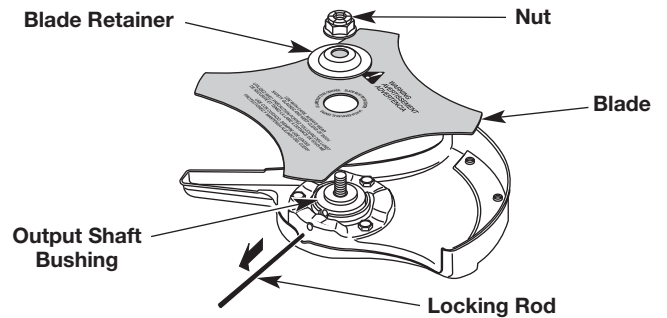
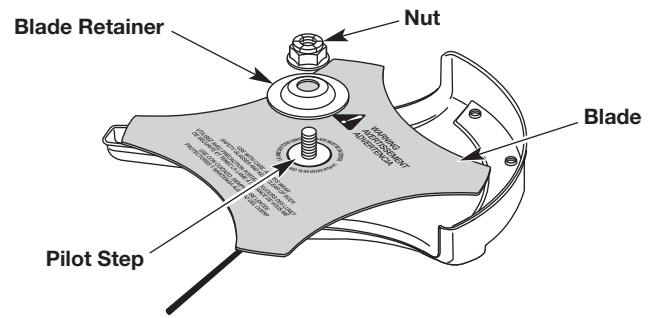

Fig. 23
Fig. 24
3. Remove the locking rod (Fig. 23).
4. Remove the nut, blade retainer and blade (Fig. 23).
1. Put the blade on the output shaft bushing (Fig. 23). Make sure the blade is centered on the pilot step (Fig. 24). The blade should sit flat against the output shaft bushing.
3. While holding the locking rod in place, put the blade retainer and nut on the output shaft (Fig. 24).